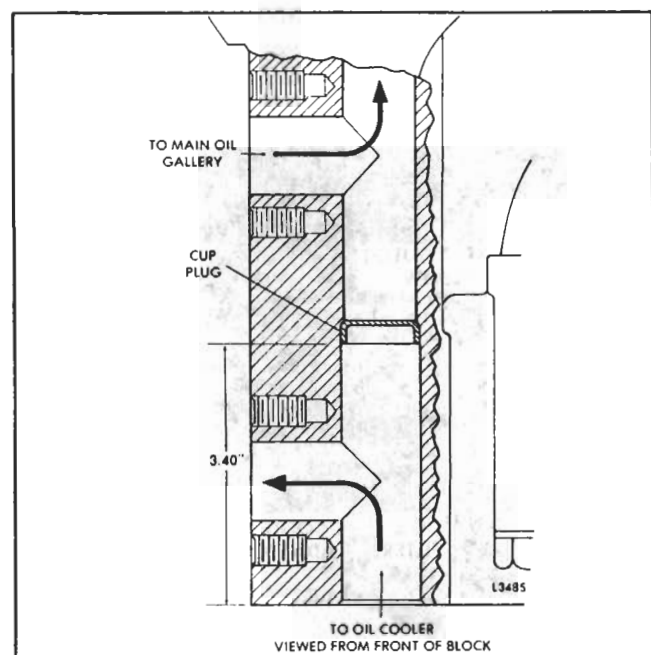

Fig. 5 - Location of Cylinder Block Oil Gallery Cup Plug
9. Inspect the vertical oil passage in the cylinder block for the presence of the cup plug which directs the flow of oil through the oil cooler (Fig. 5). Absence of this plug will result in high oil temperature or low oil pressure (resulting from high oil temperature).